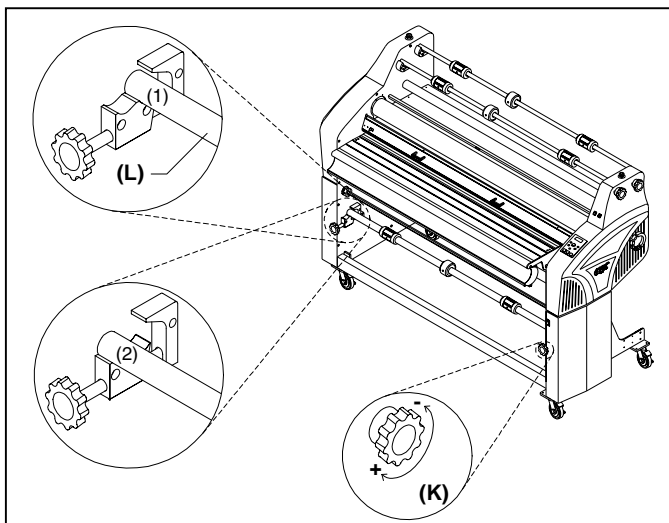

Fig. 17
**KNOBS:** (Figure 17) Left and right adjustable brake tensions. Applies brake tension to the lower unwind shaft. Turning the knob clockwise increases tension and counterclockwise decreases brake tension.
(Figure 17) The lower unwind shaft holds the lower film supply on the machine.